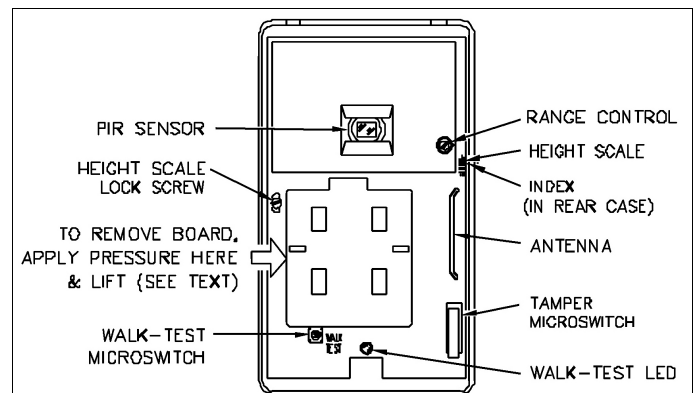

Fig. 2. GEM-DT, front cover removed.
2. Remove the circuit board: Apply outward pressure away from the left side of the rear case cavity and lift the board out. See Fig. 2.
The Height Scale must be set to obtain the maximum recommended coverage. Remove the front cover; the Height Scale is printed along the edge of the circuit board at the lower-right corner of the shield (see Fig. 2). Scale calibrations represent sensor mounting height. To set, loosen the Lock Screw and slide the board up or down, and align the index in the case with the calibration representing the mounting height of the unit. Then tighten the Lock Screw (*do not over-tighten!*).
The walk-test mode is entered by holding down the WALK TEST micro switch (see Fig. 2) as follows: